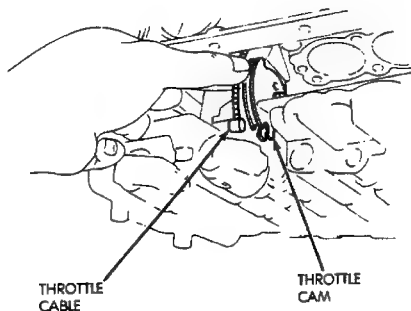

Fig. 27 Removing/Installing Throttle Cable
(1) In engine compartment, disconnect cable from throttle linkage. Then compress cable mounting ears and remove cable from linkage bracket.
(2) Raise vehicle.
(3) Remove transmission oil pan.
(4) Disengage cable from throttle valve cam (Fig. 27).
(1) Lubricate and install new seal on cable.
(2) Insert cable in transmission case.
(3) Attach cable to throttle cam (Fig. 27).